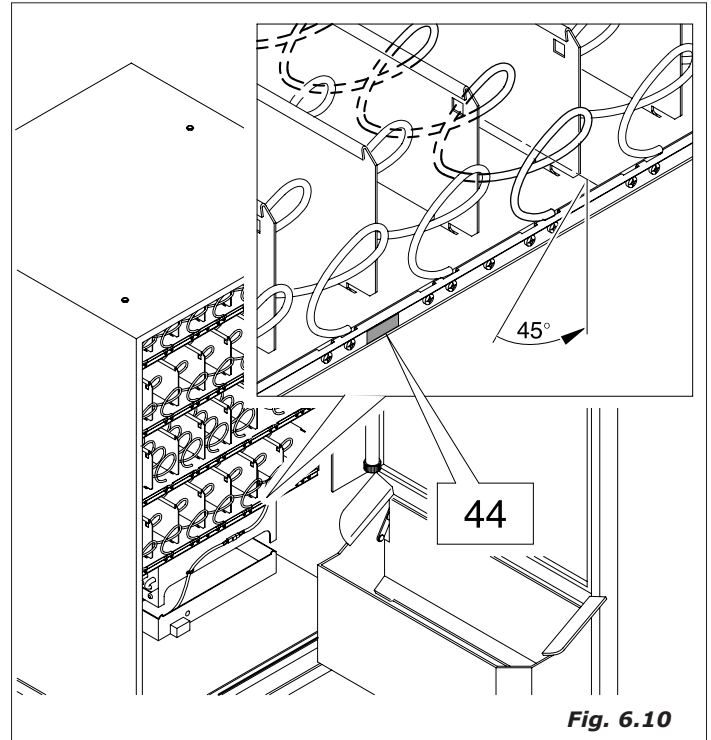

Fig. 6.10
- every spiral can be rotated 45° at a time (fig.6.10) so as to find the ideal position for every kind of product. For adjustment, see the special chapter.
- The plates indicating the number of each selection and the relative price are inserted in the special slits as indicated in the figure 6.10. For the number to be given to each selection, check Chapter 8.2.3 (Change spiral number).